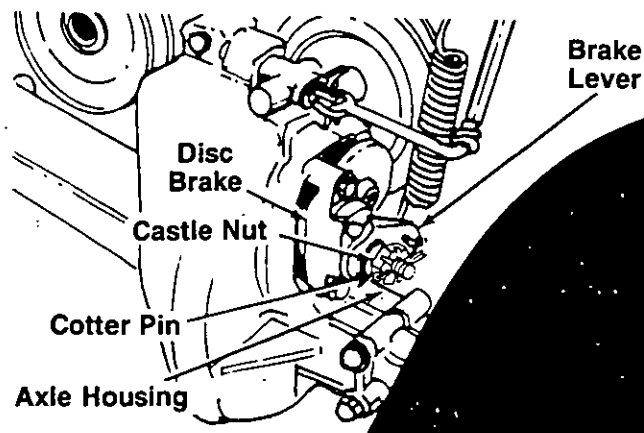

FIGURE 19.
### BRAKE ADJUSTMENT (See Figure 19)
**NOTE:** Figure 19 is shown with the unit tipped up on rear wheels for clarity only.